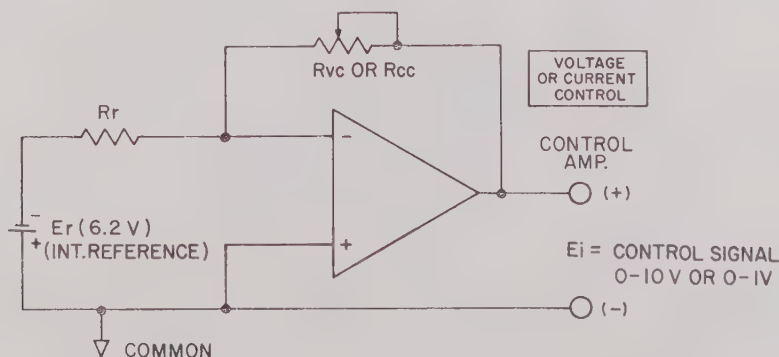

FIG. 4-4 GENERATION OF THE INTERNAL CONTROL SIGNAL FOR THE ATE VOLTAGE AND CURRENT CHANNELS.
- 4-8 The internal feedback components in the voltage, as well as in the current control channel of the ATE are selected for each ATE model such that a 0 to 10 volt d-c signal, applied to the VOLTAGE COMPARISON AMPL. or 0-1 volt to the CURRENT COMPARISON AMPL. control the full output range for each ATE model. For local (front panel) control of the ATE output quantities a CONTROL AMPLIFIER is used in a similar manner for the voltage as well as for the current channel. (See FIG. 4-4) to produce the required 0-10V or 0-1V control signal.
- 4-9 To produce the internal 0–10V or 0–1V control signals (E_i), an operational amplifier is used in the inverting configuration as shown in FIG. 4-4. The output equation for the circuit is $E_i = E_r (R_{VC}/R_f)$.